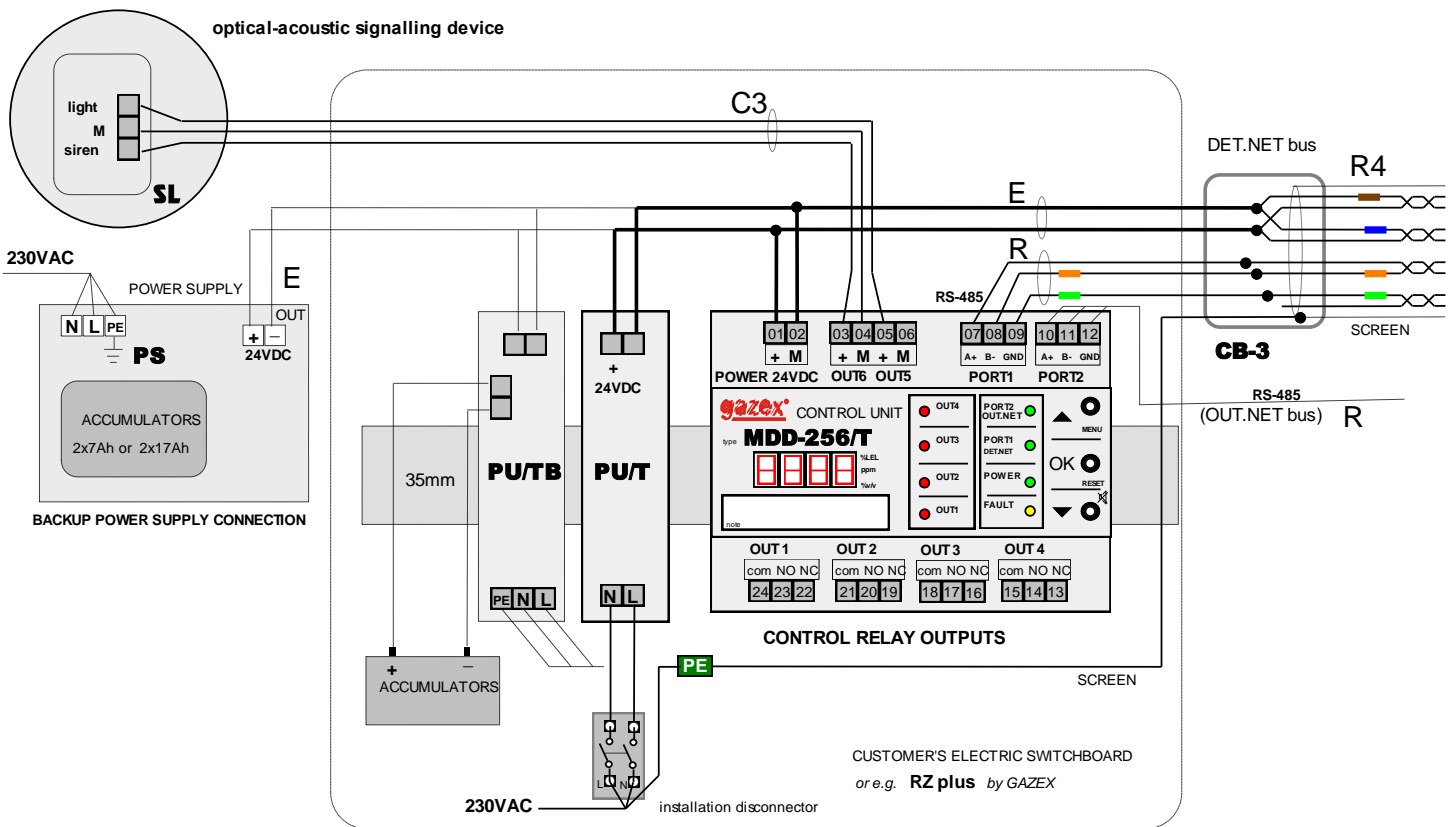

Fig. 3. View of terminal strips – electrical connections
4.2.1 Connect the bus cable 'R' fig.3 (recommended shielded cable, paired 3x 2x 0.5 mm² e.g. YTKSY ekw 3x2x0.8) or 'R4' (e.g. YTKSY ekw 4x2x0.8) to terminals PORT1, 'A+' → [07], 'B-' → [08], 'GND' → [09].
4.4 Connect external cooperating devices such as automation controllers, signalling devices, etc., to the 12V alarm outputs ([OUT5] and [OUT6]). If visual and sound signalling devices are located in the same place, it is recommended to use an integrated visual-sound signalling device, such as the SL-32 or SL-21. These can be connected to the MDD using a three-core cable 'C3' (see Fig. 3). The recommended type of cable is YKSY ekw 2x2x0.5.
4.5 Connect the 24V power cable 'E' (Fig. 3) from the PU.../T, PU.../TB, or PS... power supply; ensure correct polarity (the module is protected against reverse polarity).
In the 'R4' bus cable, the unused pairs should be used as power pairs and connected in parallel (as shown in Fig. 3). This is to reduce voltage drops in the 24VDC power supply wires, which significantly affects the possible length of the bus (system range).